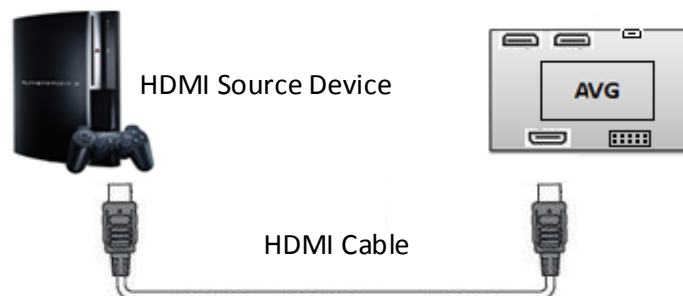

Figure 2.1. Connecting with HDMI Source Device in Stand-alone Mode
- When testing with HDMI Source device or the output port of repeater device, connect the SL-881 to your source device in the way shown in Figure 2.1.
1. Use the HDMI cable to connect HDMI source device to the SL-881 HDMI IN port, as shown in Figure 2.1.